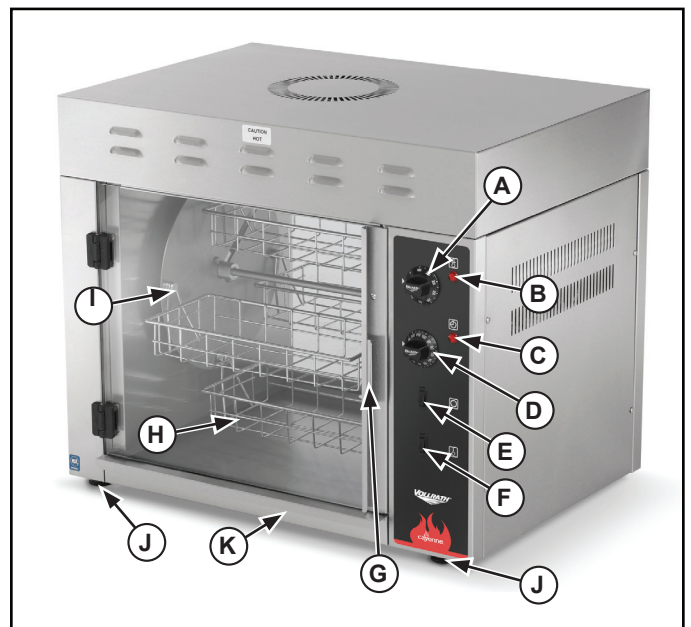

Figure 1. Features and Controls
Before initial use, turn the thermostat control dial (A) to 450°F (218°C) and allow equipment to burn-in for 30 minutes. See Figure 1. You will notice smoke appearing due to the elements burning-in. This is normal. After 30 minute burn in period the equipment is ready for use.
2. Switch on the power and light switch (F) to the ON position. See Figure 1. The oven lights will illuminate which confirms power to the equipment.
3. Set the thermostat control (A) to the desired cooking temperature. The recommended cooking temperature for eight (8) birds and 15 birds is 338°F (170°C), however this may need to be adjusted based on chicken size, starting temperature, quantity, your preferences and other variables.
4. Set the timer control (D) to the desired cooking time, typically between 1½ - 2 hours. The actual cooking time (and temperature) may need to be adjusted to ensure the chickens are fully cooked as verified by a quality food thermometer.
6. Turn the motor switch (E) to the OFF position.